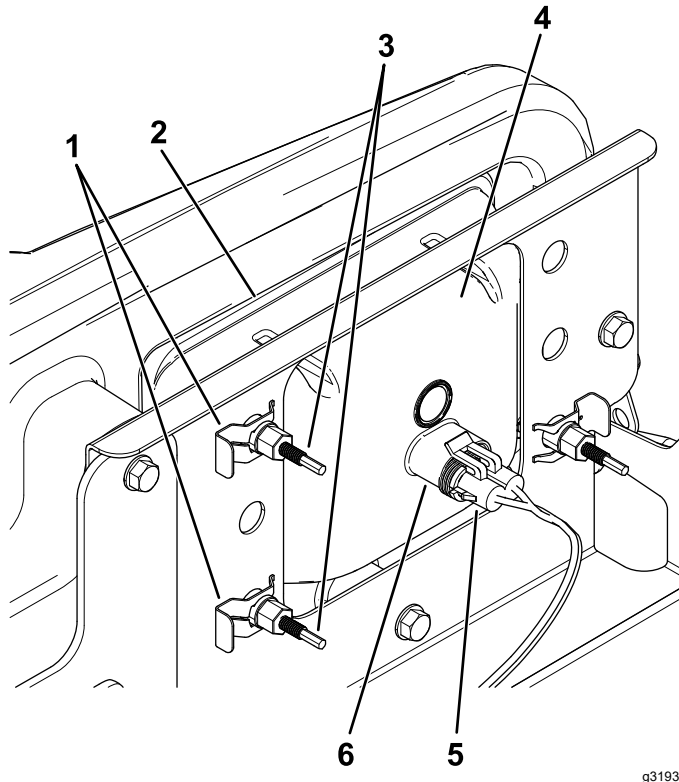

Figure 47
3. Disconnect the electrical connector for the harness from the connector of the lamp assembly (Figure 47).
4. Remove the speed clips that secure the headlight to the headlight bracket (Figure 47).
5. Remove the headlight assembly by moving it forward through the opening in the front bumper (Figure 47).
6. Install the new headlight through the opening in the bumper (Figure 47).
8. Connect the electrical connector for the harness to the connector of the lamp assembly (Figure 47).
5. At the back of the headlight assembly, rotate adjustment screws (Figure 47) to pivot the headlight assembly and align the position of the cast beam.